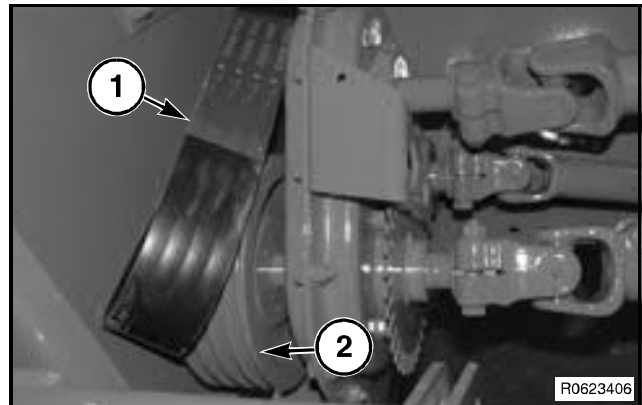

FIG. 21
FIG. 21: To install the belt (1), twist the back side of the belt and move the belt around the end of the driven sheave (2). Do not move the belt fully onto the four ribs at this time.